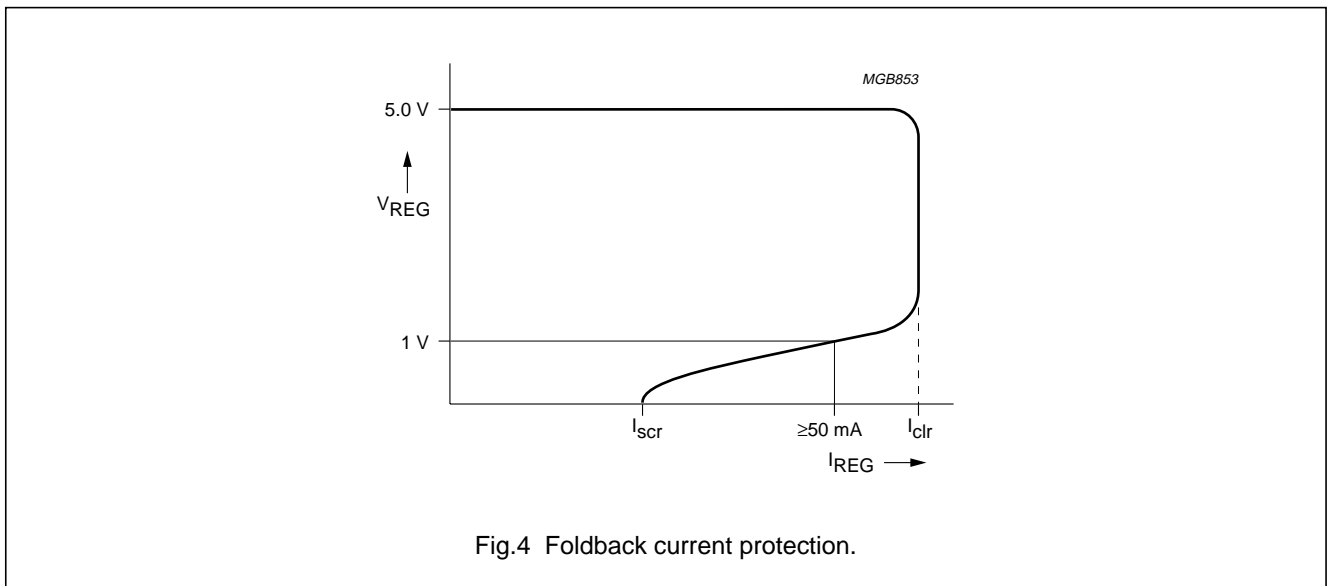

Fig.4 Foldback current protection.
7. At current limit, Iclr is held constant (behaviour according to dashed line in Fig.4).
8. The foldback current protection limits the dissipated power at short-circuit (see Fig.4).